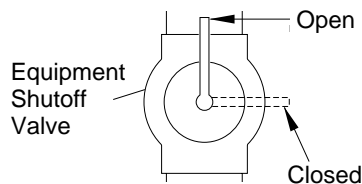

Figure 15 - Equipment Shutoff Valve
1. Close equipment shutoff valve (see Figure 15).
1. Open equipment shutoff valve (see Figure 15).
4. Check all joints from equipment shutoff valve to gas control (see Figure 15). Apply mixture of liquid soap and water to gas joints. Bubbles forming show a leak.